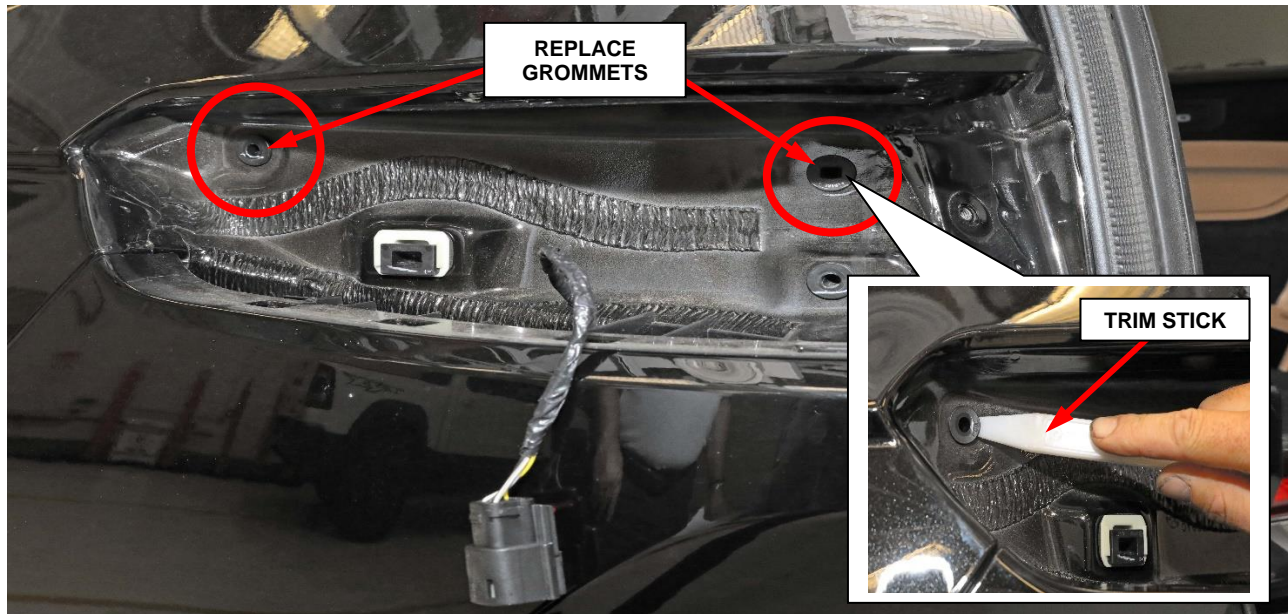

Figure 9 – Taillamp Grommets
- Using a plastic trim stick remove the two upper grommets as shown in (Figure 9), then insert two **NEW** grommets.